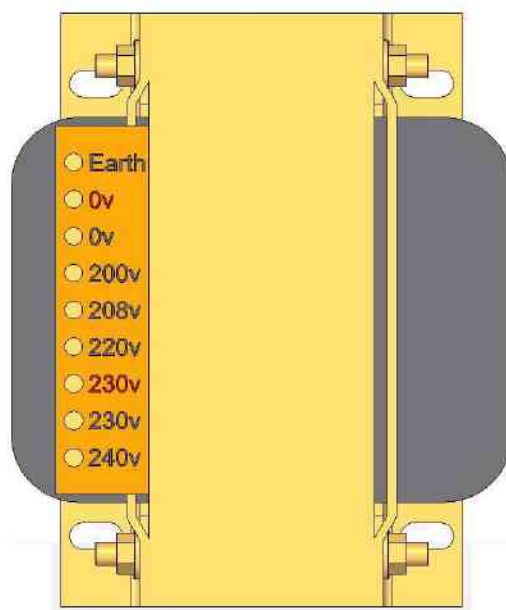

Figure 3 – Transformer showing different electrical supply connections
- With reference to Figure 3, change the position of wire 30 (W30) and wire 31 (W31) so that they are in the correct position for your electrical supply. Ensure the connections are fully tightened. **Do not move the wires attached to the red 0 V and 230 V connectors, as these provide power to the secondary stepper motor transformer and are not part of the procedure.**